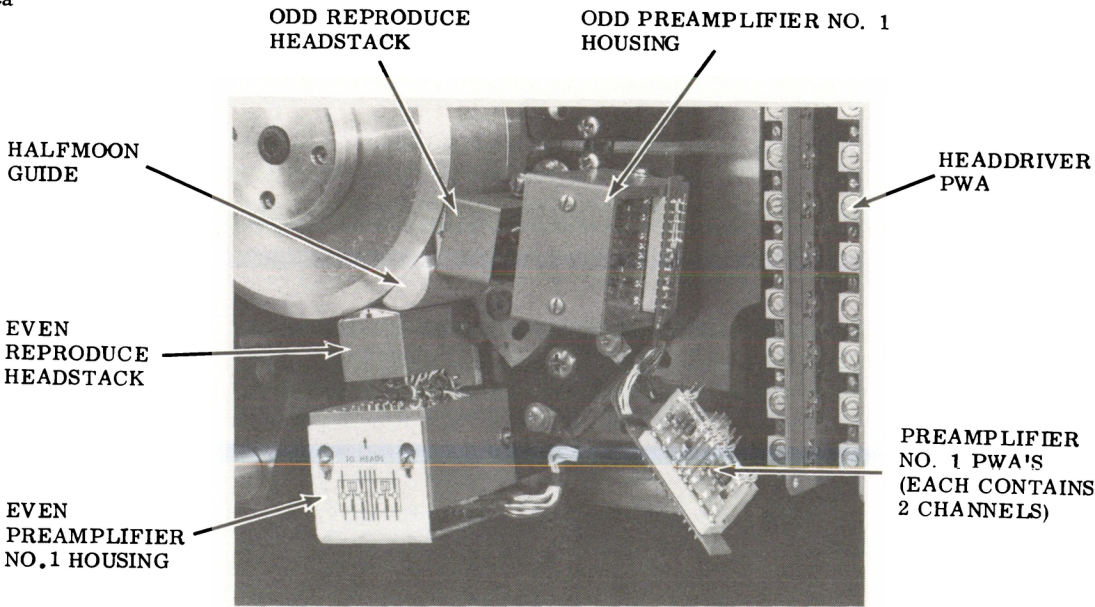

Figure 1-13. FR-3010 Preamplifier No.1 Housing
- The preamplifier No. 1's which mount in the pre-amplifier No. 1 housings (one for the odd and one for the even channels). The preamplifier No. 1 housings are mounted on the head baseplate of the reproduce head assembly. See Figures 1-13 and 1-14.
There are two preamplifier No. 1's on each preamplifier No. 1 pwa. Up to eight pwa's may be inserted into each preamplifier No. 1 housing. A 7-channel system will require 2 preamplifier pwa's in each of the odd and even housings. A 14-channel system will require 4 preamplifier pwa's per housing and a 28-channel system will require 8 preamplifier pwa's. See Figure 1-13.